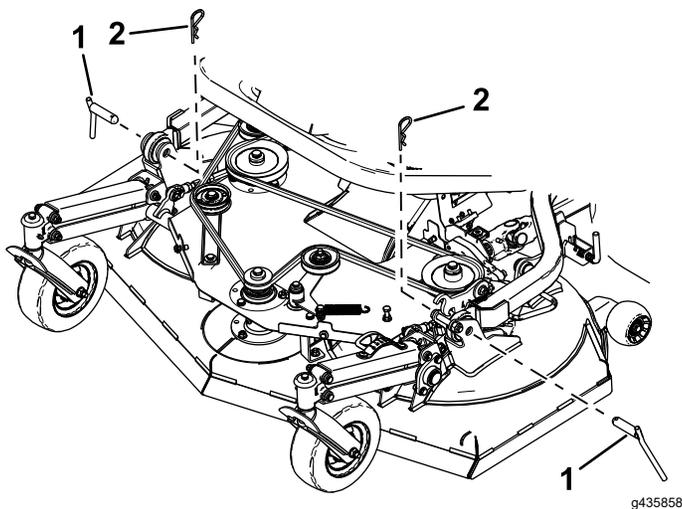

Figure 93
10. Remove the 2 hairpin cotter pins and 2 clevis pins that secure the lift arms at each side of the cutting unit (Figure 93).
5. Install the hairpin cotter pin and clevis pin to secure the lift arms on each side; refer to Figure 93.